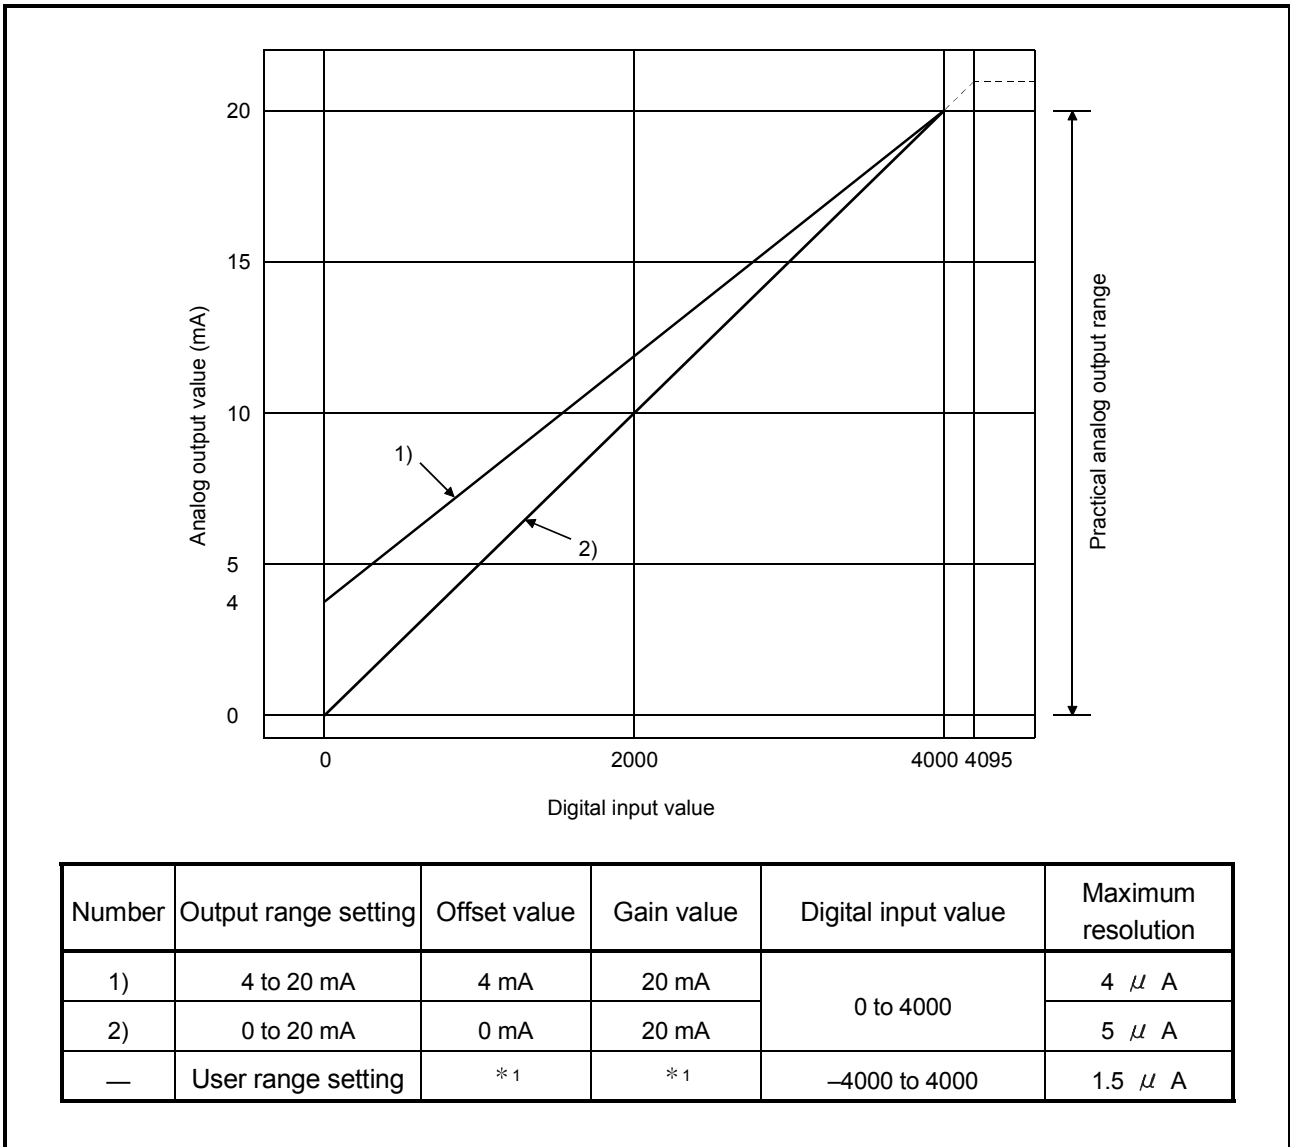

Figure 3.3 Current output characteristic in normal resolution mode
Figure 3.3 shows a graph of the current output characteristic in normal resolution mode.
<p>(1) Set within the digital input range and analog output range for each output range. If these ranges are exceeded, the maximum resolution and accuracy may not fall within the performance specifications. (Avoid using the dotted line area shown in Figures 3.3 and 3.4.)</p> <p>(2) Set the offset/gain values for the user setting range *1 within a range in which the following conditions are satisfied.</p> <p>(a) Setting range is from 0 to 20 mA</p> <p>(b) Normal resolution mode setting: { (Gain value) - (Offset value) } > 6.0mA High resolution mode setting: { (Gain value) - (Offset value) } > 10.0mA</p>